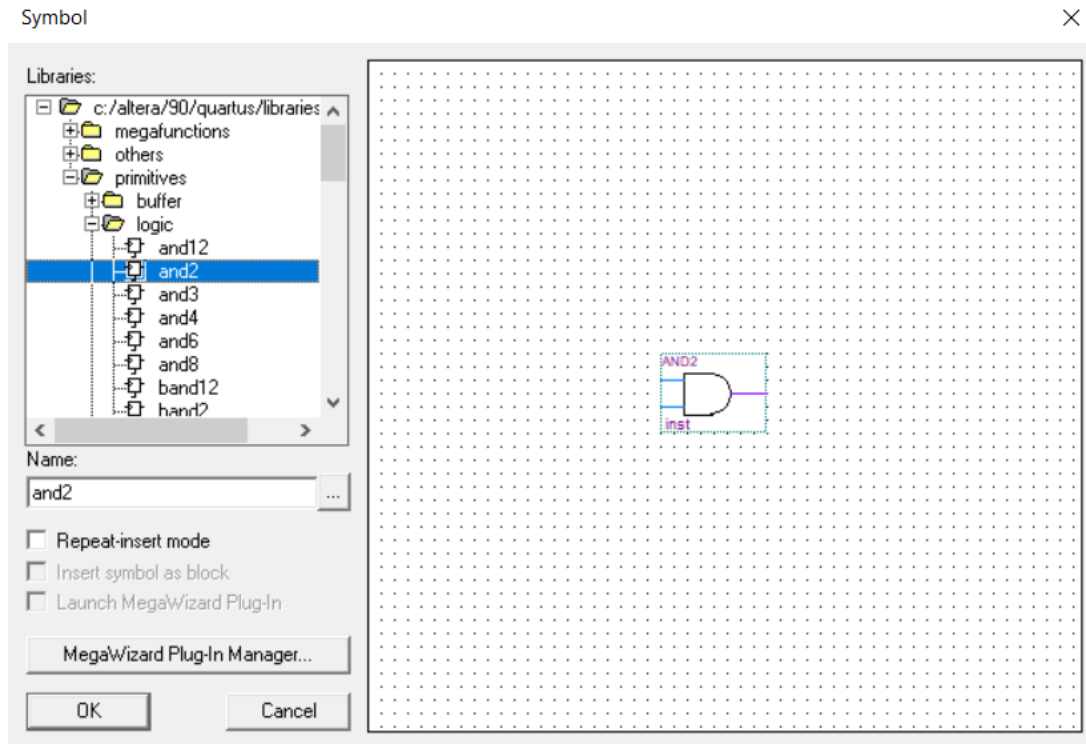

Figure 8.19: choose components.
3. This opens the symbol window in which available libraries, including the standard QUARTUSII library, open this library by clicking on the little plus sign next to it, then select primitives, and then select logic, then select the gate you want in your implementation.as shown in Figure 8.19.